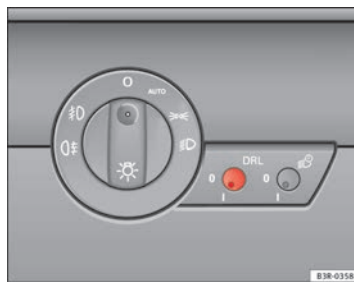

Fig. 90 Daytime running lights switch
- Briefly press the knob ⇒ fig. 90 to release it from its set position.